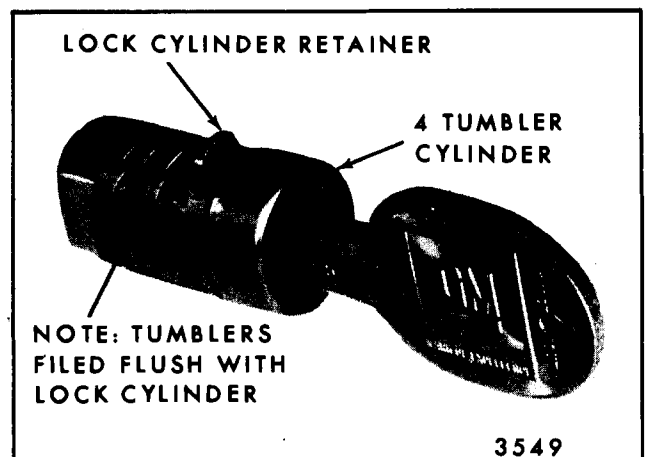

Fig. 1-8-Coded Glove Compartment Cylinder
4. Reverse lock cylinder position in vise and repeat step No. 3 for top of tumblers See Figure 1-8.